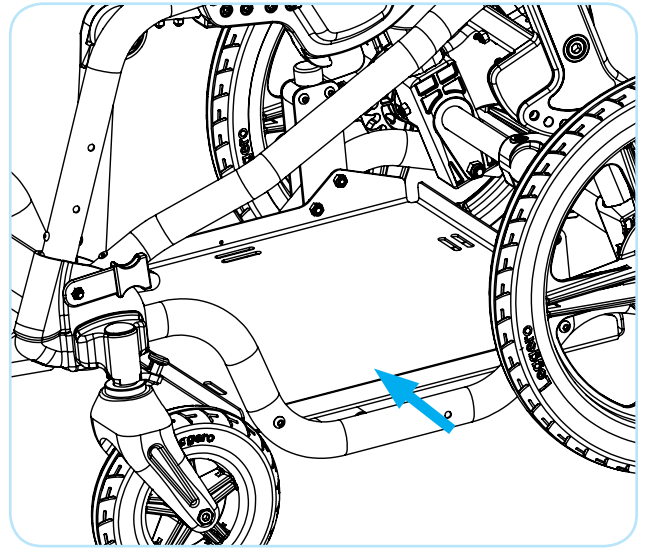

Figure 35
2. Load and unload the tray from the sides. Reference Figure 35.